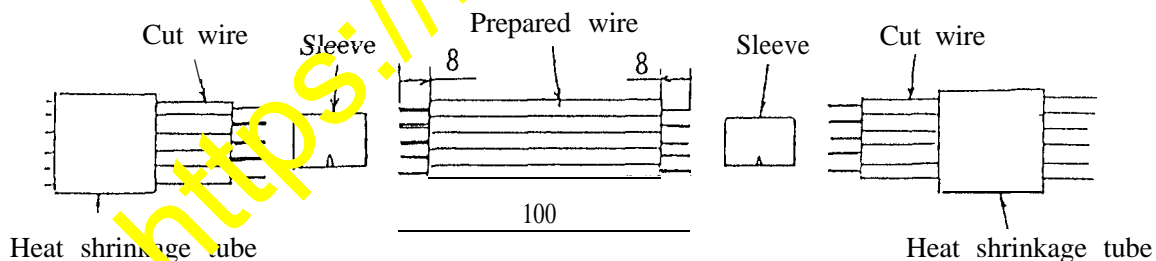

Fig. 4 Crimping of wire
- (5) Insert heat shrink tube (08033-10825) to each cut position.
- (6) Prepare 5 wires (KES 07.418.10.85) of 100 mm in length similar in size to that of cut wire.
- (7) Insert prepared wire and cut wire in wire splicer sleeve (08018-00515) to crimp using crimping tool. (Fig. 4)